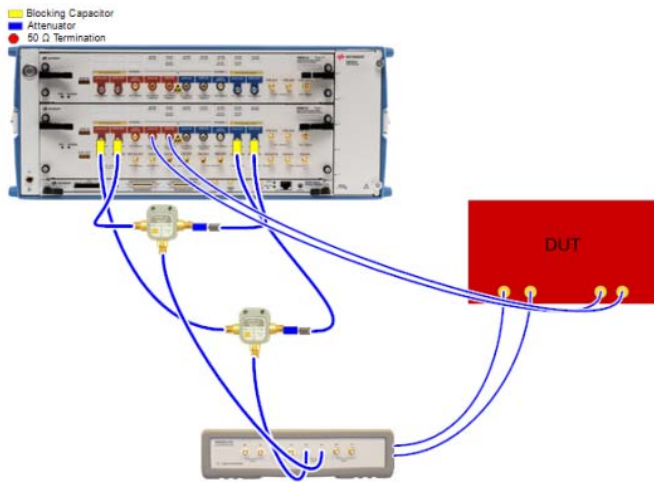
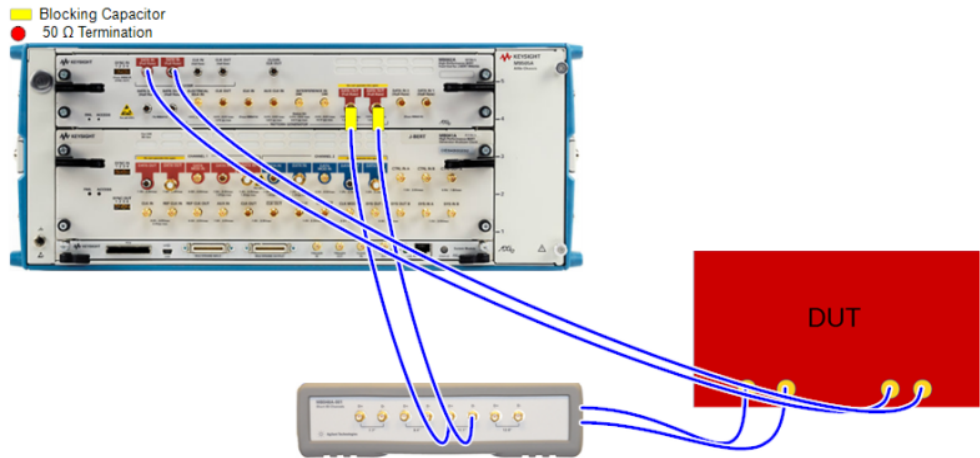

Figure 1 SAS Receiver Test Setup Example (for J-BERT M8041A)
Figure 2 SAS Receiver Test Setup Example (for J-BERT M8062A)
**Figure 1** and **Figure 2** show the examples of Receiver Test setups for the J-BERT M8041A and M8062A system configurations.